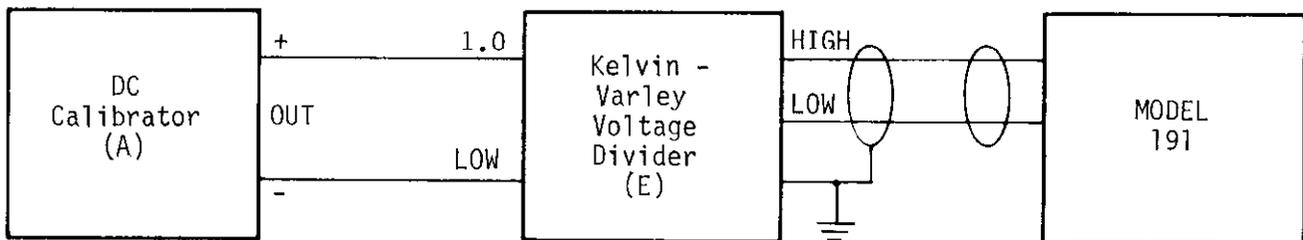

FIGURE 3-1. Test Circuit For 200mV And 2V Accuracy Check.
- b. Disconnect test leads at the DC calibrator (A) and short them. Depress the Model 191 NULL button. Verify a display indication of 00.000mV $\pm 0.001mV$ flashing.
c. Connect the DC calibrator (A), Kelvin-Varley Voltage Divider (E) and Model 191 as shown in Figure 3-1. Set the voltage divider (E) for .0190000 output.
d. Temporarily disconnect the test leads from the DC calibrator (A) and short them. Depress Model 191 NULL button for a display indication of 00.000 $\pm 0.001mV$ flashing.
e. Reconnect the DC calibrator (A) and set to an output of +10.00000V.
f. Verify that the Model 191 reading is between +189.978 to +190.022mV. Note that the allowable reading includes a 6 digit allowance for the uncertainty of the DC calibrator (A) and Voltage Divider (E).
h. Select the 2V range and release the NULL button. Set the Kelvin-Varley Voltage Divider (E) to .190000 output.
i. Verify that the Model 191 reading is between +1.89981 and +1.90019V. Note that the allowable reading includes ± 4 digits for DC calibrator (A) uncertainty.